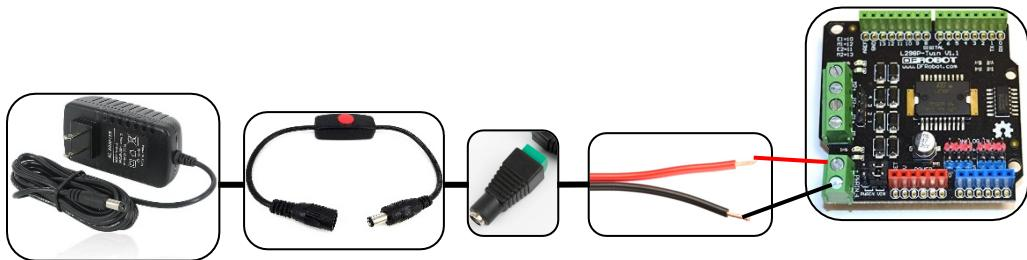

Figure 9: Assembly diagram for emergency stop
1. Figure 9 illustrates how to connect the motor controller to a power source via the emergency stop. Do not do this until you are instructed to do so by the lab instructors.